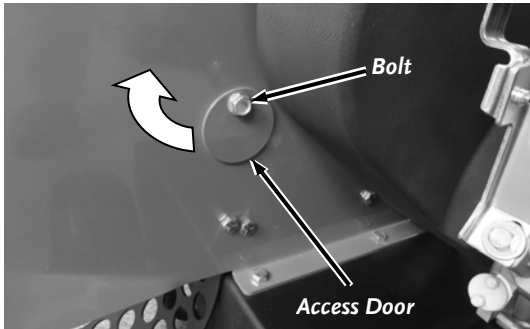

Figure 32
3. Loosen the Bolt on the Access Plate using a 1/2" Wrench, rotate the Plate out of the way and then tighten the Bolt to hold it in place (**Figure 32**).